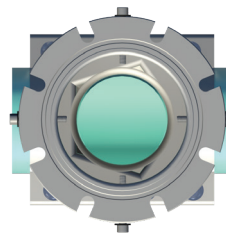

FIGURE 8
2.0.11) Check the inside of the valve body outlet to ensure the gasket is properly seated. The completion pins are shipped in the fully installed position. Back out and flush the completion pins with the flange's ID (see Figures 8 and 9).